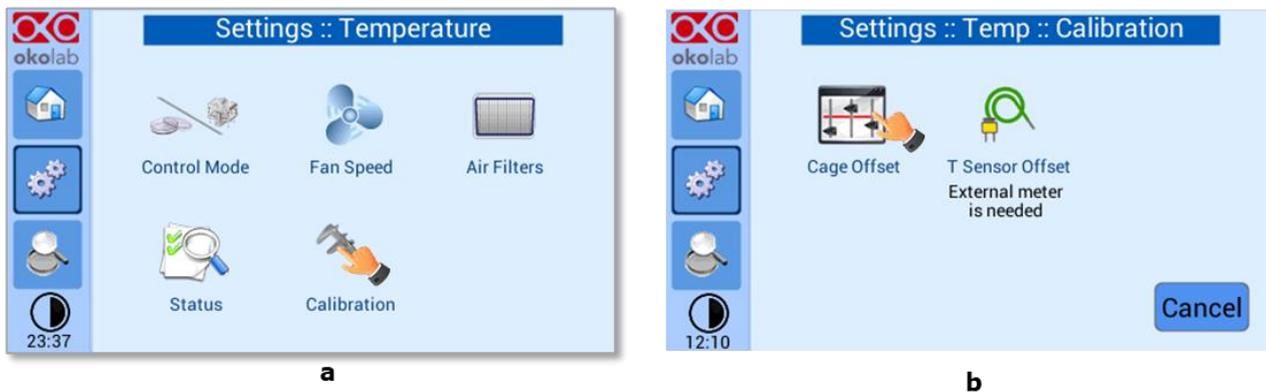

Figure 30. Cage Calibration (a-b)
5. Press on the Calibration icon  (see Figure 30 a)
6. Press the Cage Offset button, as shown in Figure 30 b.
2. Press on the *Calibration* icon  (see Figure 30 a)